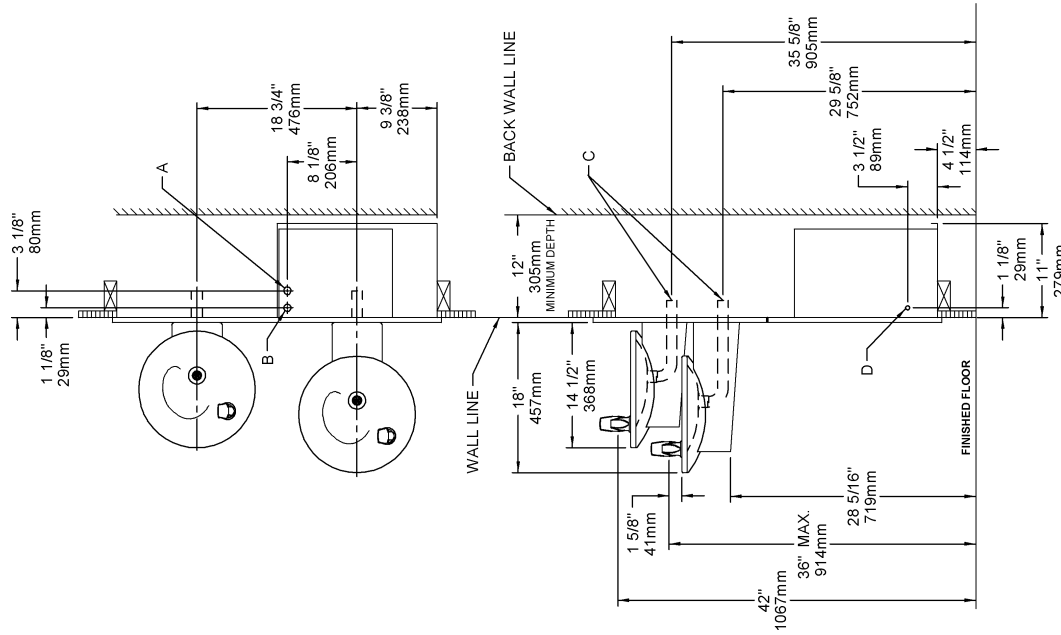

FIG. 5
1. **Install** remote chiller. Remove front panel of chiller. Remove and discard cardboard inner pack from between compressor and side panel. Slide chiller onto the shelf and position it to the left side of shelf. (See Figure 5)